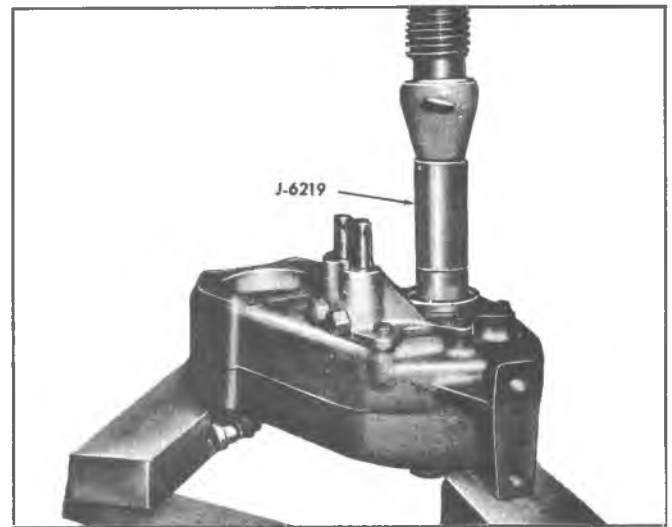

Fig. 14D--Installing Front Output Shaft Front Bearing
10. Position front bearing on shaft. Supporting rear of shaft, press bearing into position using Tool J-6219 as shown in Figure 14D. Tap front of shaft rearward to reposition rear bearing cup.